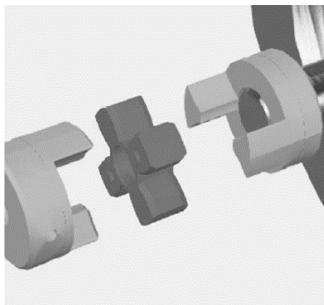

Figure 6
1. Place the pump assembly (C) onto motor flange (B) making sure that the coupling halves and elastomeric coupling sprocket (C) are properly positioned for re-assembly. See Fig. 6.
2. Alternately tighten the hex head screws (A) to compress the split lock washer, plus 1/4 turn, not to exceed 84 Nm.